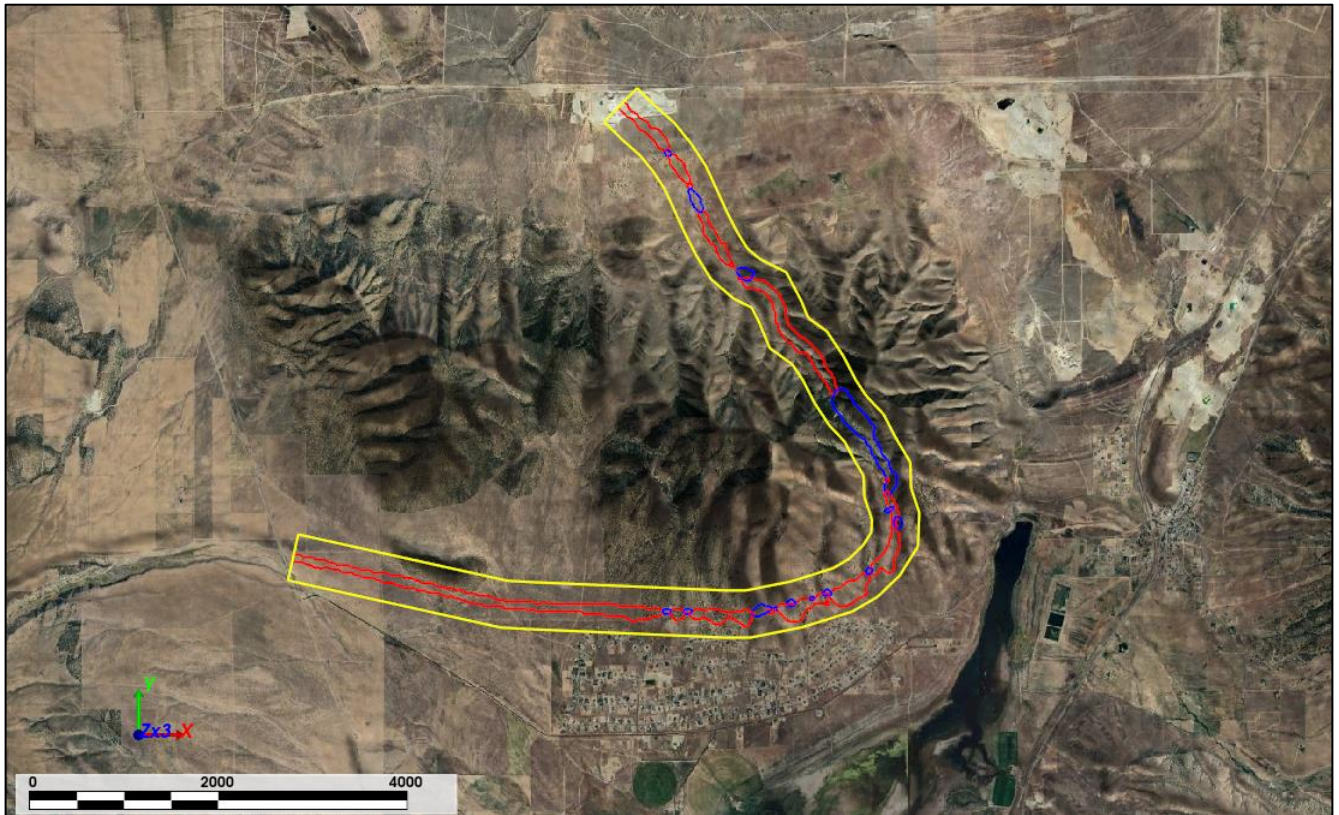

Figure 32: Alignment 2 - Cut and Fil footprints vs. ROW
- The Alignment 2 right of way corridor (yellow), fill footprint (red) and cut footprint (blue) overlaid over the satellite imagery/grid can be seen in Figure 32 below.